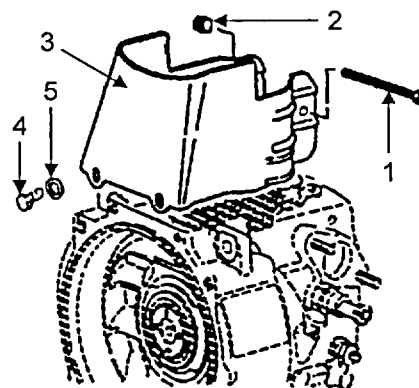

FIGURE 5-14. REMOVE COWLING
- a. Remove screw (Figure 5-14, Item 1) and hex nut (2) from cowling (3)
- b. Remove the socket head cap screws (4) and lock washers (5) holding the cowling to the engine block.
- c. Remove cowling (3) from engine.